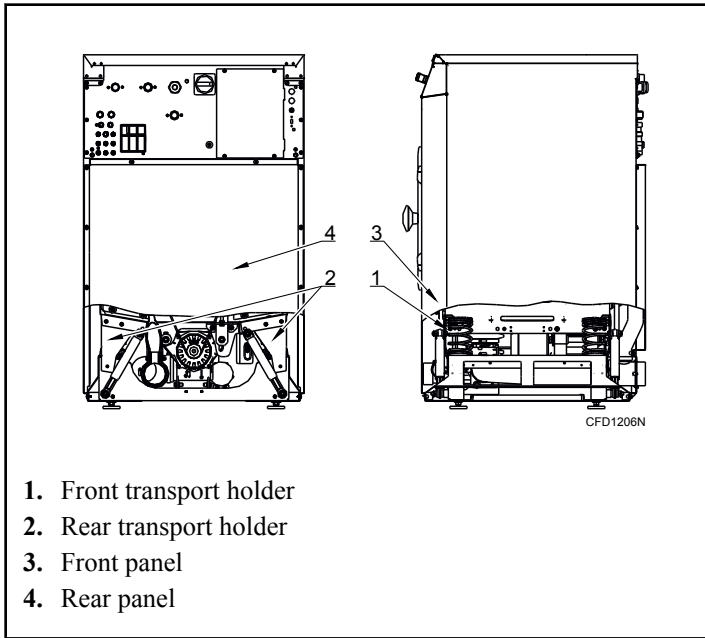

Figure 5
1. Remove front and rear panel, refer to *Figure 5* .